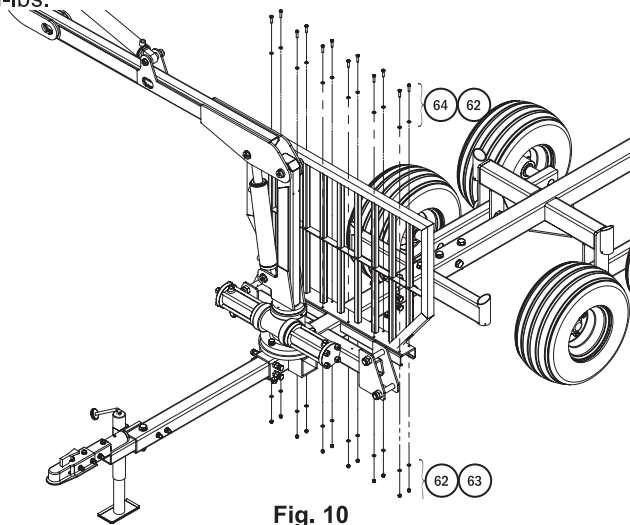

Fig. 10
**Step 13: Install the Safety Cage.** Place the safety cage onto the Stabilizer Frame Base and attach it using the 12 Bolts (64), Flat Washers (62), and Locknuts (64) as shown in **Fig. 10**. Tighten the fasteners to between 170 and 190 in-lbs.